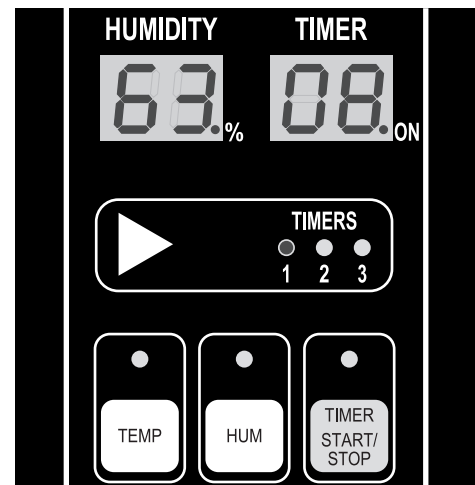

Fig. 4
1. If the unit is set to display the actual humidity (Fig. 4), the button indicator LED will not be illuminated.